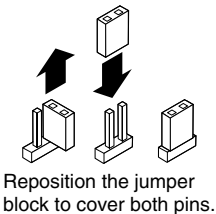

Figure 4 — Inverting sync with jumpers 2 and 3
- 2. Locate JMP 2 and JMP 3 on the main board. Remove and reposition the jumper block over both pins (see figure 4).